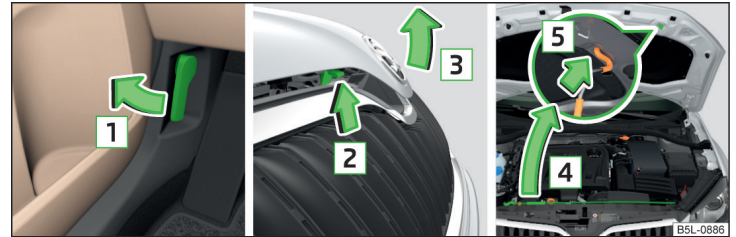

Fig. 158 Opening the bonnet
- Open the front door and pull the release lever below the dash panel in the direction of arrow **1** » Fig. 158.